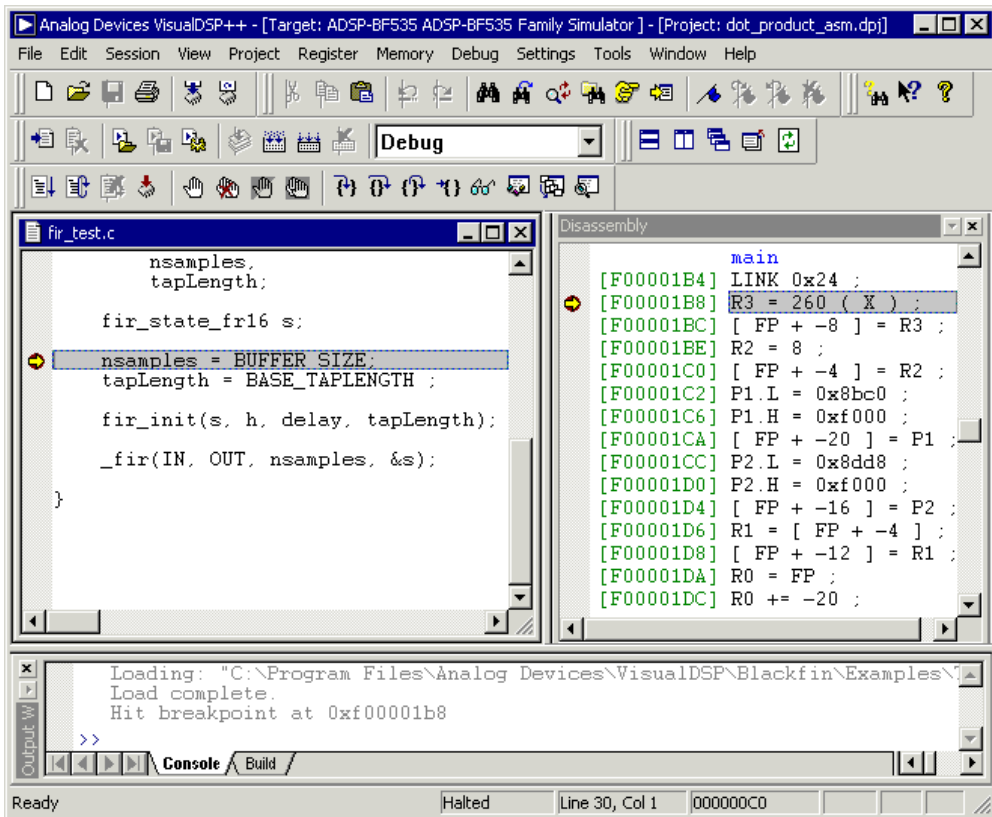

Figure 2-24. Loading the FIR Program
- b. Double-click `FIR.DXE` to load the program in an editor window (Figure 2-24 on page 2-36).